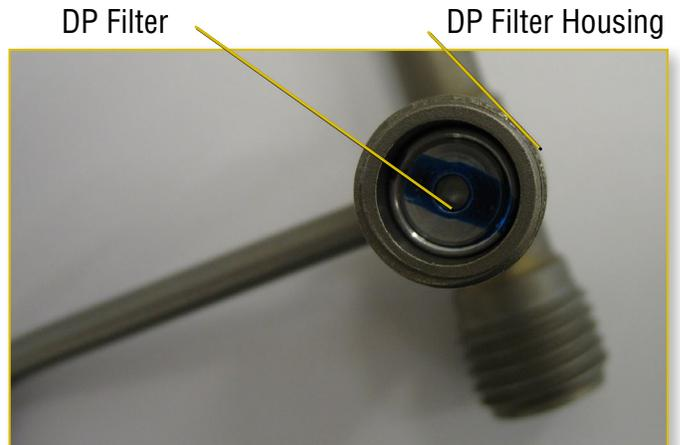
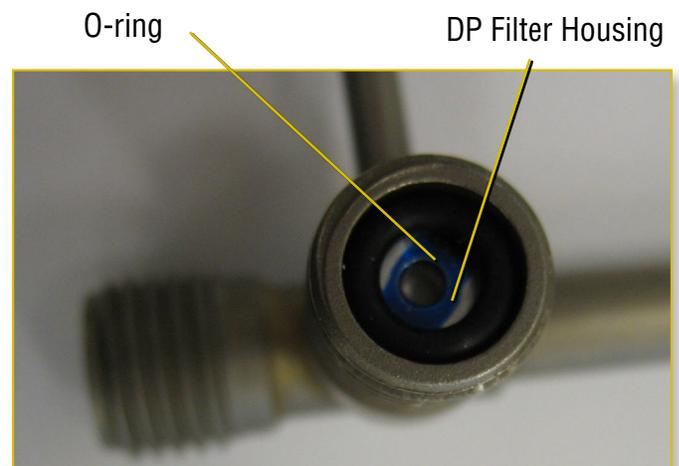

Figure 17a DP Filter Installation
Figure 17b DP O-ring Installation
8. Using clean tweezers, install the DP filter supplied in the heater tube kit into the DP filter housing. Ensure the blue stripe is facing out. If the blue stripe is missing, then that filter has already been used so do not use it [Figure 17a]. A new DP filter must be used for each test. Place a new O-ring, supplied in the heater tube kit, on top of the DP filter and push into place [Figure 17b].